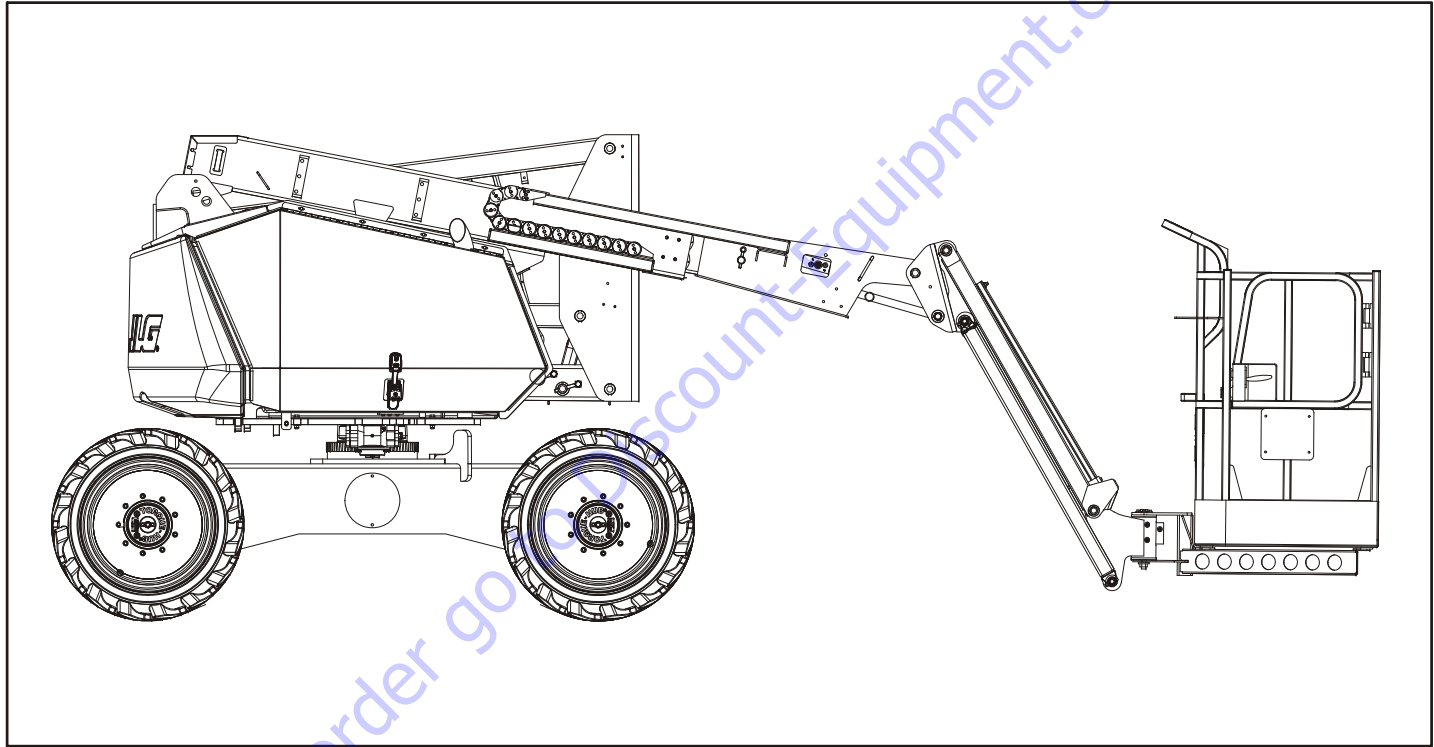
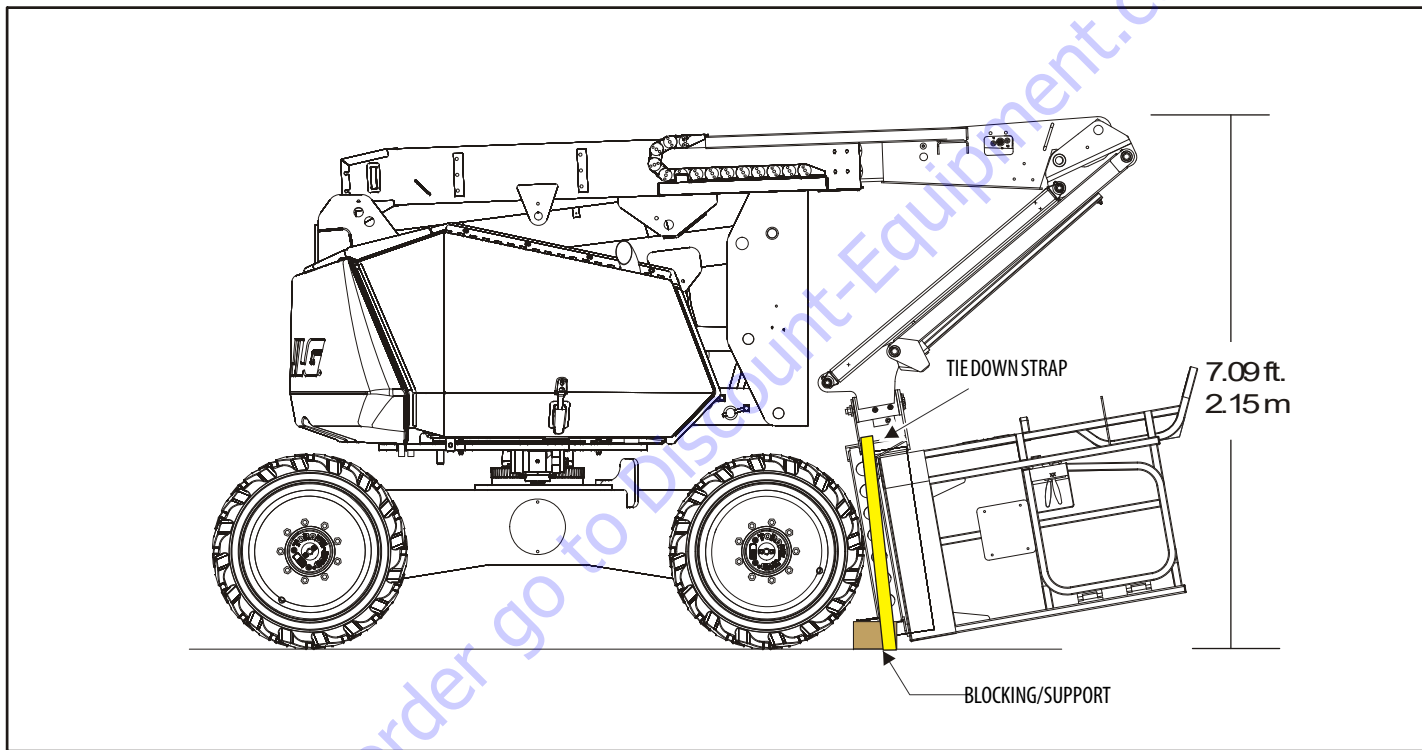

Figure 4-5. Stowed Position
Figure 4-6. Storage Position
See Figure 4-5.
(See Figure 4-6.)
1. Place the machine in the stowed position. Refer to Figure 4-5. From the ground control station, raise the main boom at least to the elevation shown in Figure 4-6. The main boom must be raised to prevent the platform basket from hitting the ground during this procedure.
3. Place blocking under the platform support, lower the platform support down onto the blocking by using Main Boom Lift Down, and tie it down as shown in Figure 4-6.